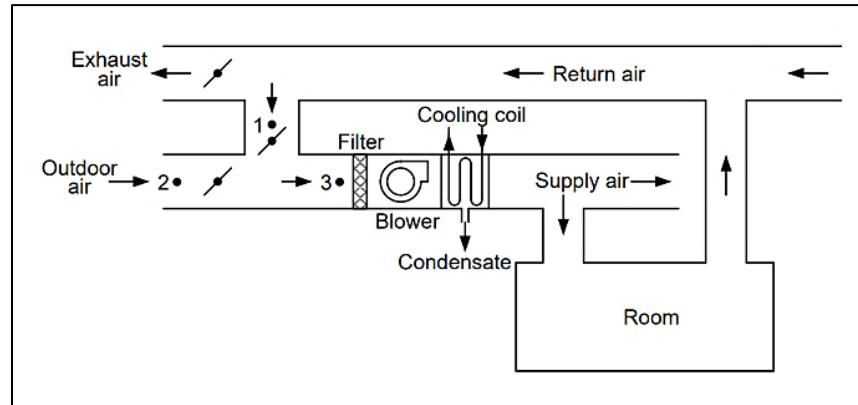

Figure B2(c) / Rajah B2(c)
- CLO1 (c) Figure B2(c) shows the mixing process of the return and the outdoor fresh air streams. The outdoor air has a dry bulb temperature of 33°C and a wet bulb temperature of 22°C (point 2) while the return air has a dry bulb temperature of 22°C and a relative humidity of 15% (point 1). Given the air mixture at point 3 consists of 25% outside air and 75% return air. Using a CIBSE Psychrometric Chart (Appendix 4), estimate the dry bulb temperature and the wet bulb temperature of that air mixture (point 3).